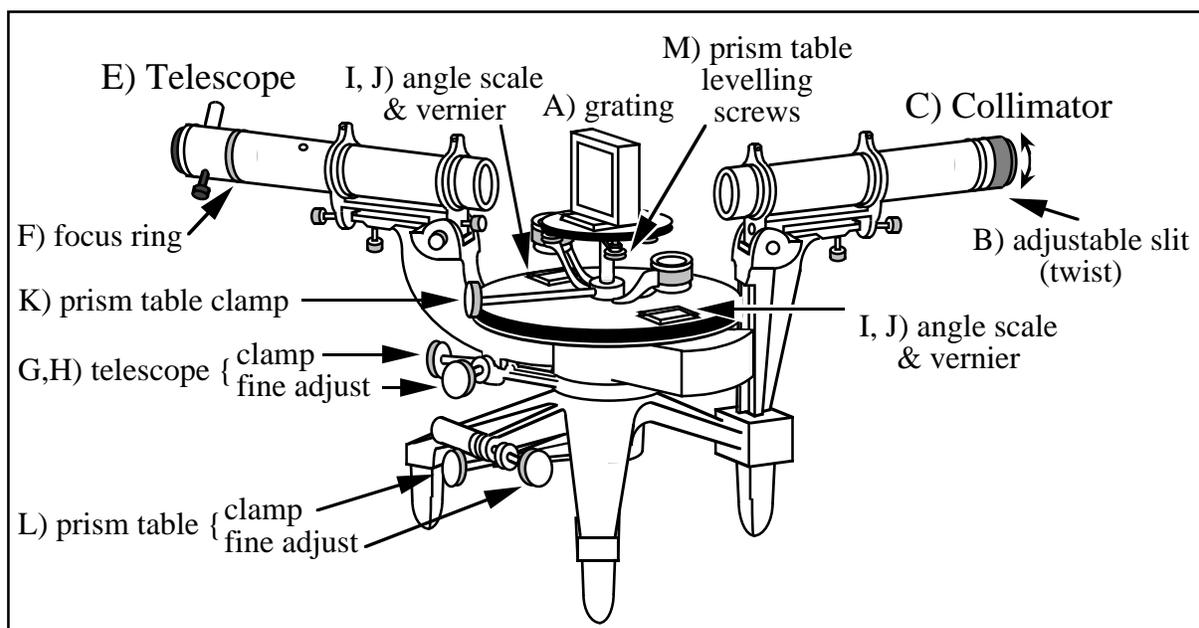

Figure 1: The spectrometer (side view).
- ii) Sight telescope at a distant object (thru an open window); then focus telescope by rotating its focus ring (Fig. 1) until the object's clear image falls on the cross hairs. The test for proper focus is absence of parallax between the image and cross hairs (appendix 4). The telescope, now focused for parallel rays, will stay so as long as the focus ring is unmoved; but one may still adjust the eyepiece to suit the observer.